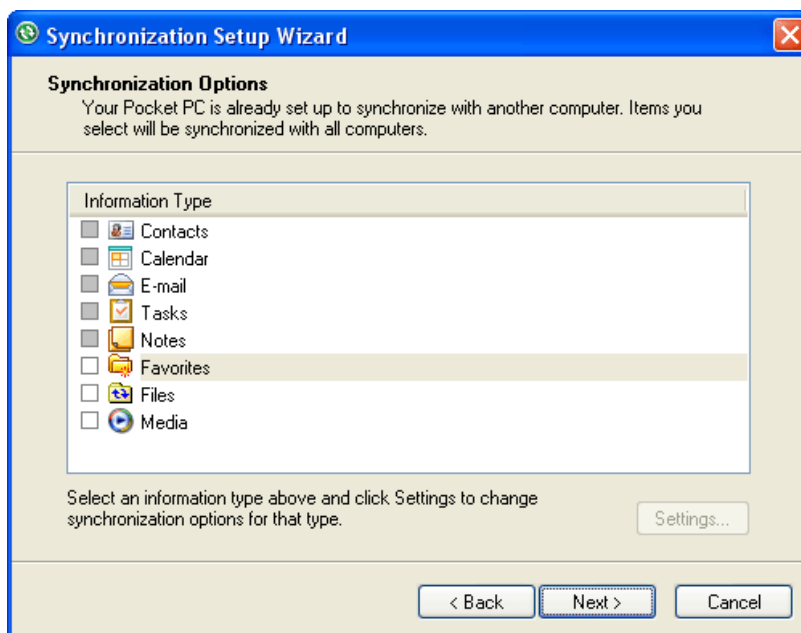

Figure 75. Unmark All Synchronization Options.
- 4) On the Synchronization Options screen, *unmark ALL checkboxes, scrolling down as needed to ensure all items have been deselected* (Fig. 75). This will prevent the host computer and Detective from automatically exchanging files.